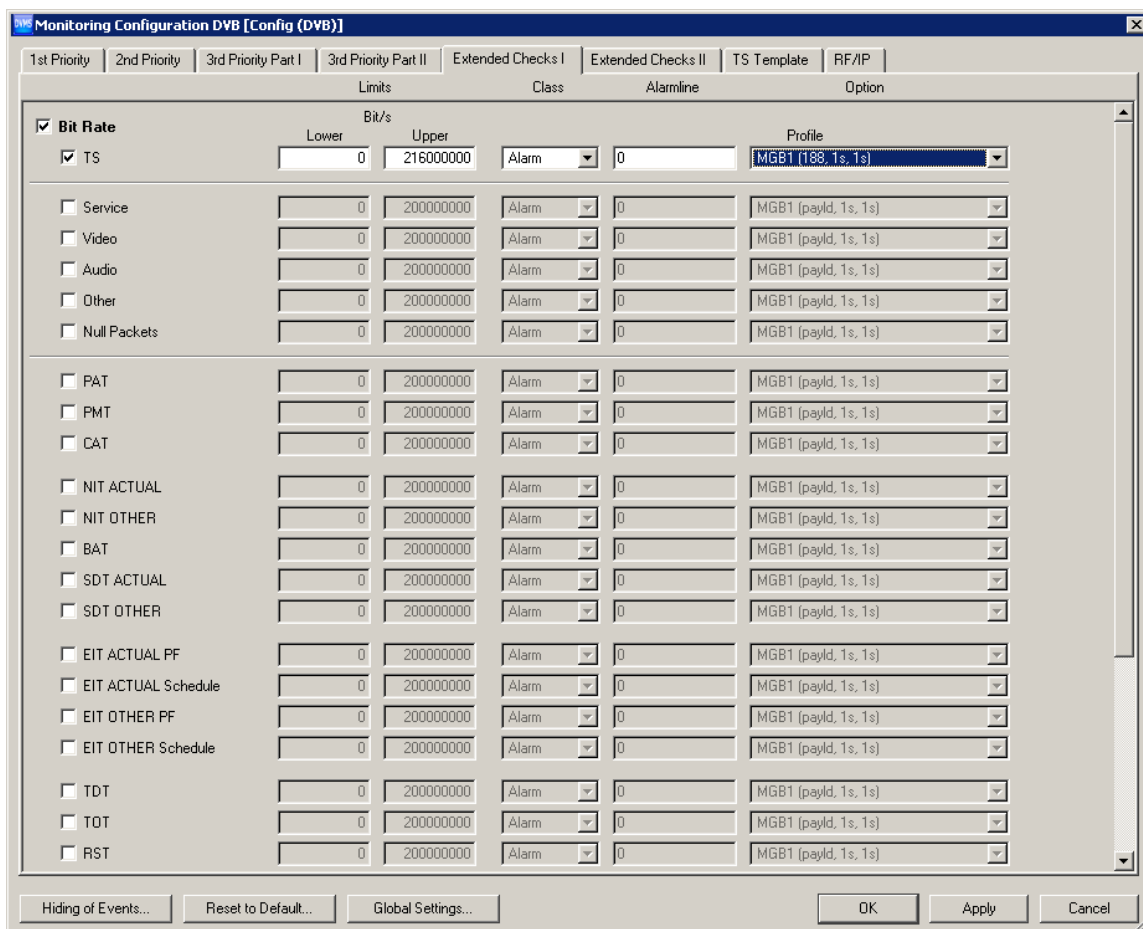

Fig. 6-1: Extended Checks I tab
2. Select the "Extended Checks I" tab (see figure 6-1).